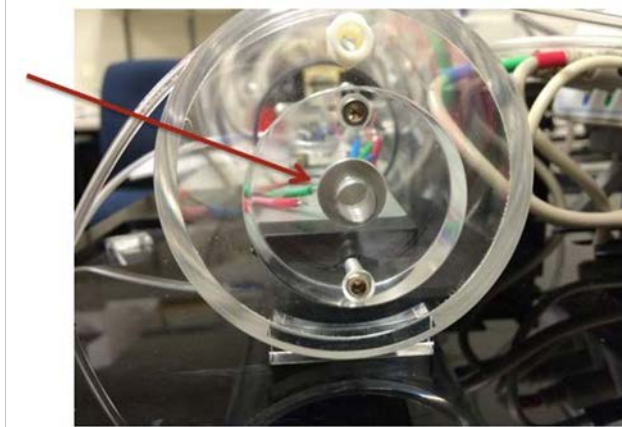

Figure 129. Mouse RC chamber location of Hex screws to be removed for pneumotach screen replacement.
1. Use a hex wrench to remove the two stainless steel screws (Figure 129) that hold the pneumotachograph cover in place.